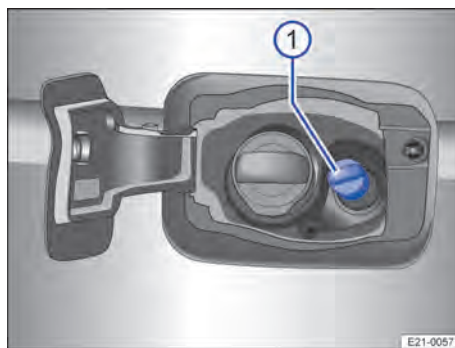

Fig. 175 Behind the tank flap: AdBlue tank cap (illustration).
The AdBlue® filler neck is located behind the tank flap next to the tank filler neck for fuel → Fig. 175 ①.